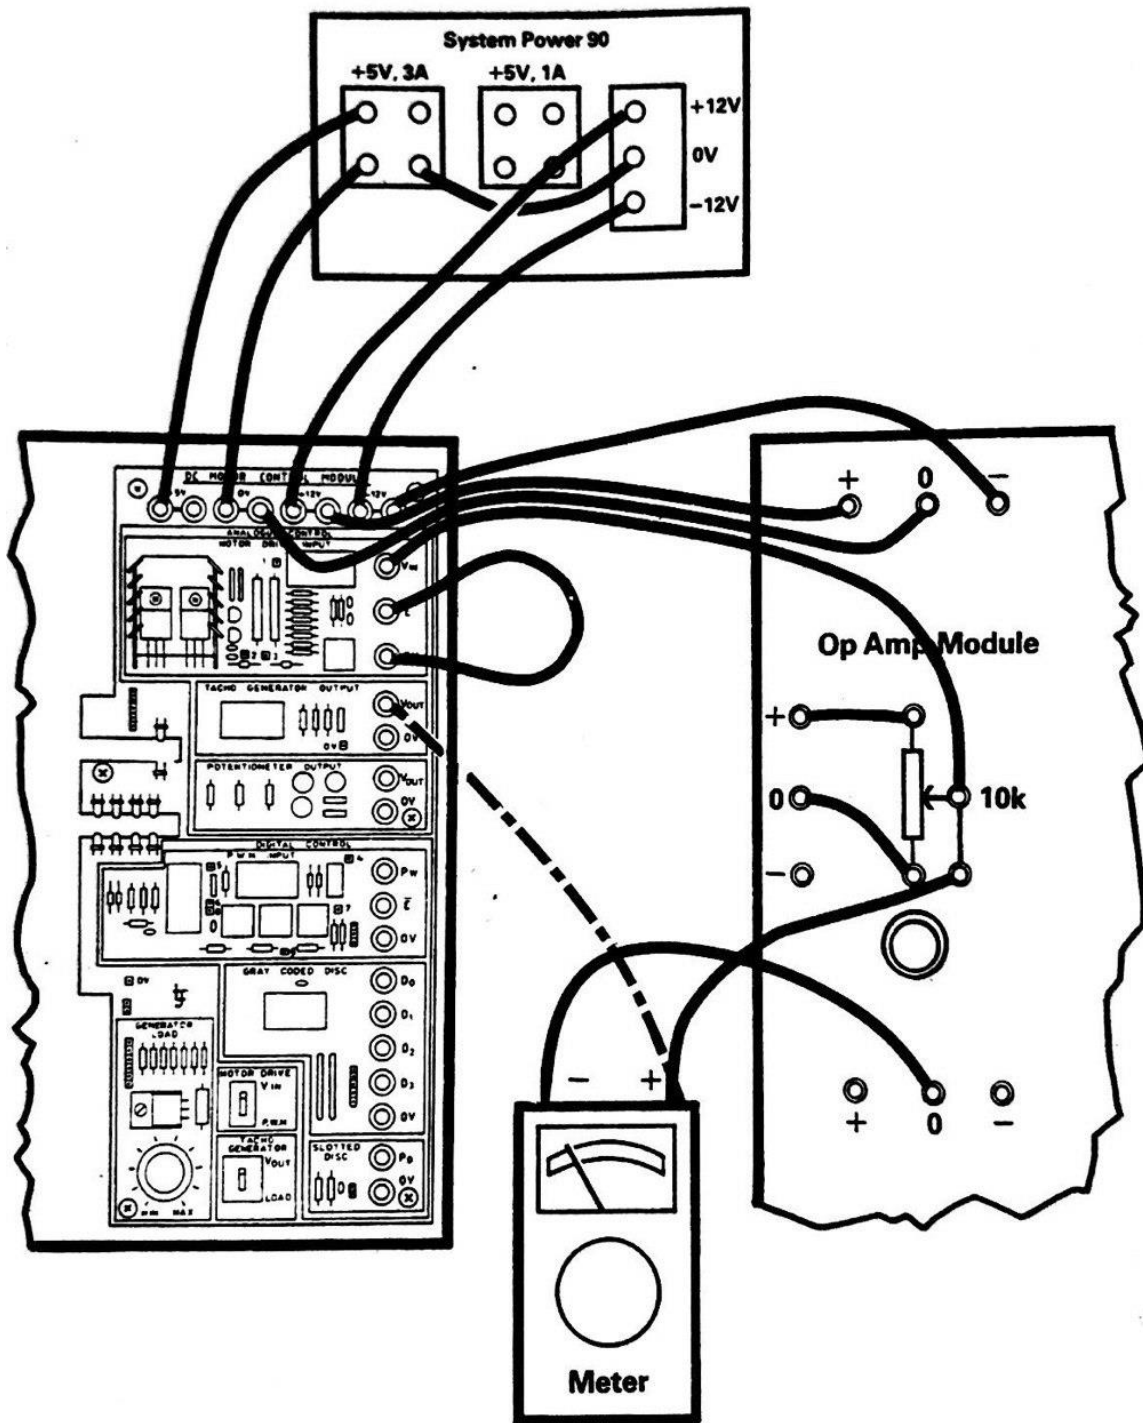

Figure 2
The Figure 2 shows the Circuit Connection For this experiment.
1. Connect the Circuit to Power-Supply as shown in Figure 2 in [Circuit Connection].
2. Connect the Potentiometer to the Circuit Input as reference input as shown in Figure 2 in [Circuit Connection].
3. Connect the Voltmeter to the Potentiometer in parallel as shown in Figure 2 in [Circuit Connection].